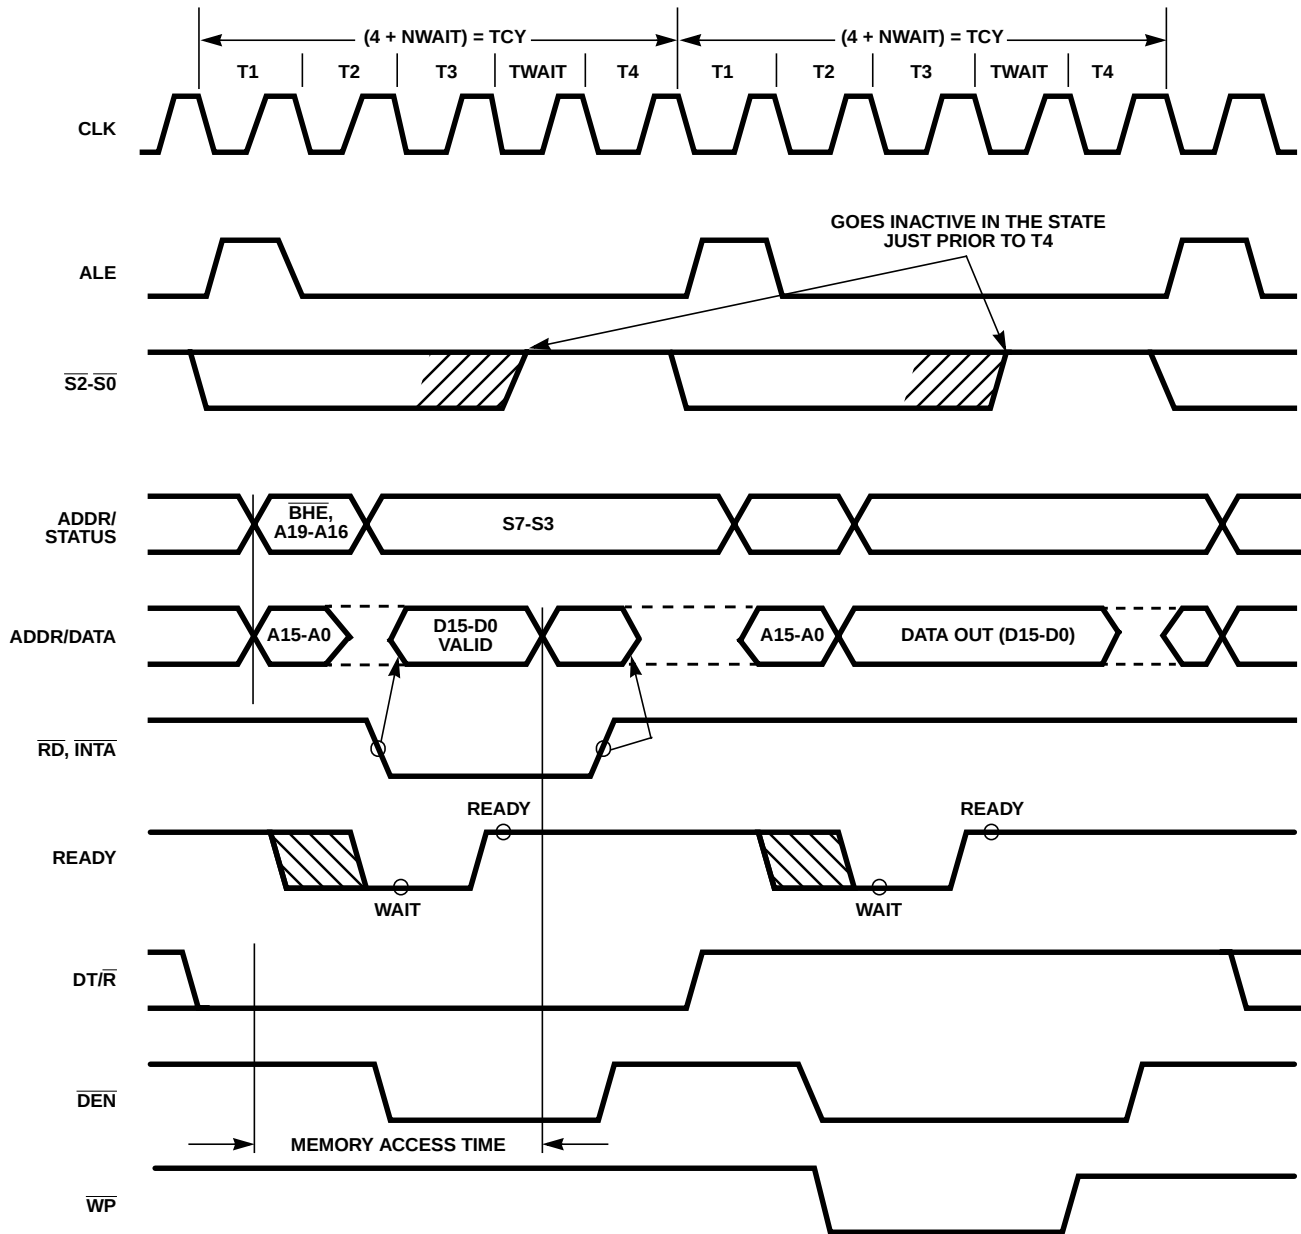
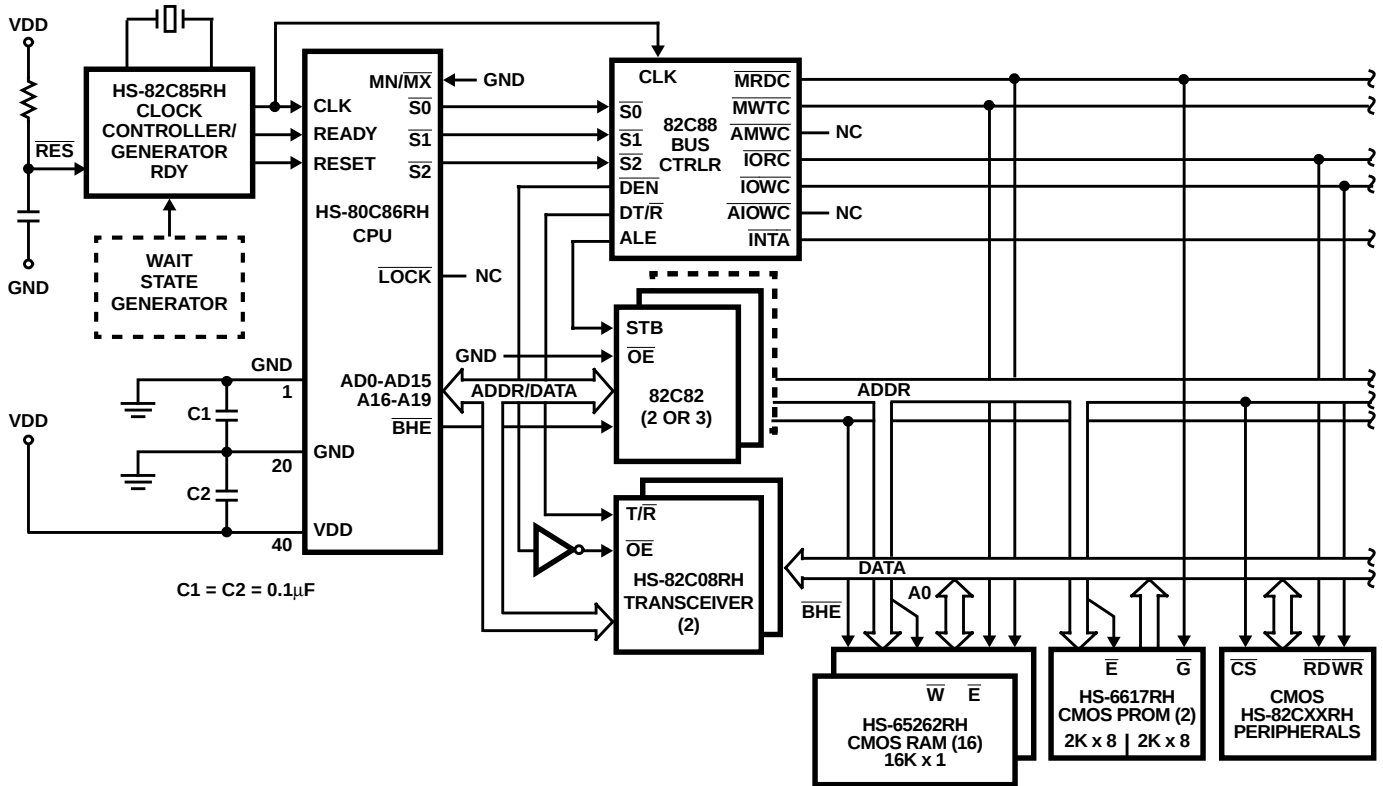

FIGURE 11. BASIC SYSTEM TIMING
FIGURE 14A. MAXIMUM MODE HS-80C86RH TYPICAL CONFIGURATION
Each processor bus cycle consists of at least four CLK cycles. These are referred to as T1, T2, T3 and T4 (see Figure 11). The address is emitted from the processor during T1 and data transfer occurs on the bus during T3 and T4. T2 is used primarily for changing the direction of the bus during read operations. In the event that a "NOT READY" indication is given by the addressed device, "Wait" states (TW) are inserted between T3 and T4. Each inserted wait state is the same duration as a CLK cycle. Idle periods occur between HS-80C86RH driven bus cycles whenever the processor performs internal processing.
Typical system configurations for the processor operating in minimum mode and in maximum mode are shown in Figures 14A and 14B, respectively. In minimum mode, the MN/ $\overline{MX}$ pin is strapped to VDD and the processor emits bus control signals (e.g. $\overline{RD}$, $\overline{WR}$, etc.) directly. In maximum mode, the MN/ $\overline{MX}$ pin is strapped to GND and the processor emits coded status information which the 82C88 bus controller used to generate Multibus™ compatible bus control signals. Figure 11 shows the signal timing relationships.